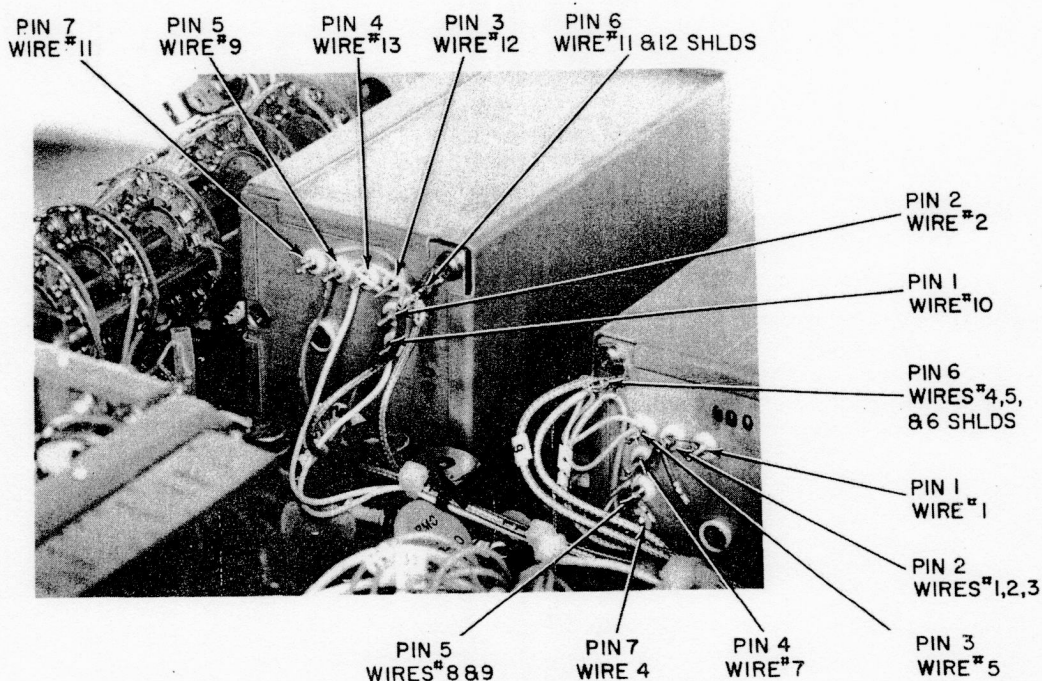

Figure 4-17. PTO Terminals
2. Unsolder the wires from the six feedthru terminals on the rear of the applicable PTO (see Figure 4-17) and remove the Phillips-head screw retaining the ground strap.